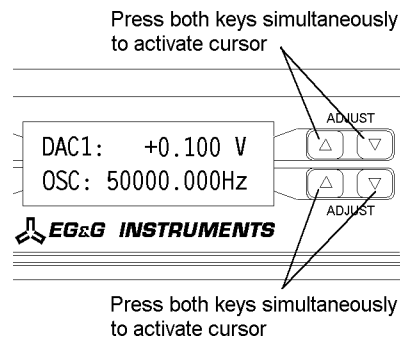

Figure 4-5, Active Cursor Activation
- Step 1 Press both the up and down **ADJUST** keys simultaneously. A cursor appears over one of the displayed digits (see figures 4-5 and 4-6).